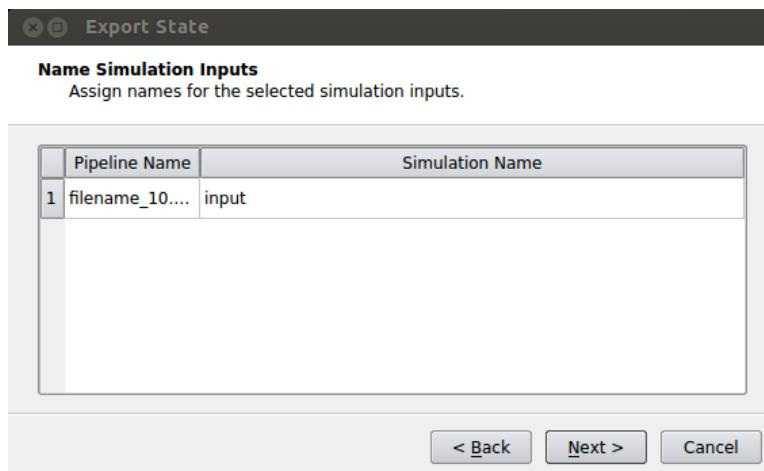

Figure 2.4: Providing identifier strings for Catalyst inputs.
5. The next step is labeling the inputs. The most common case is a single input in which case we use the convention that it should be named input, the default value. For situations where the adaptor can provide multiple sources (e.g. fluid-structure interaction codes where a separate input exists for the fluid domain and the solid domain), the user will need to label which input corresponds to which label. This is shown in Figure 2.4. After this is done, click Next.